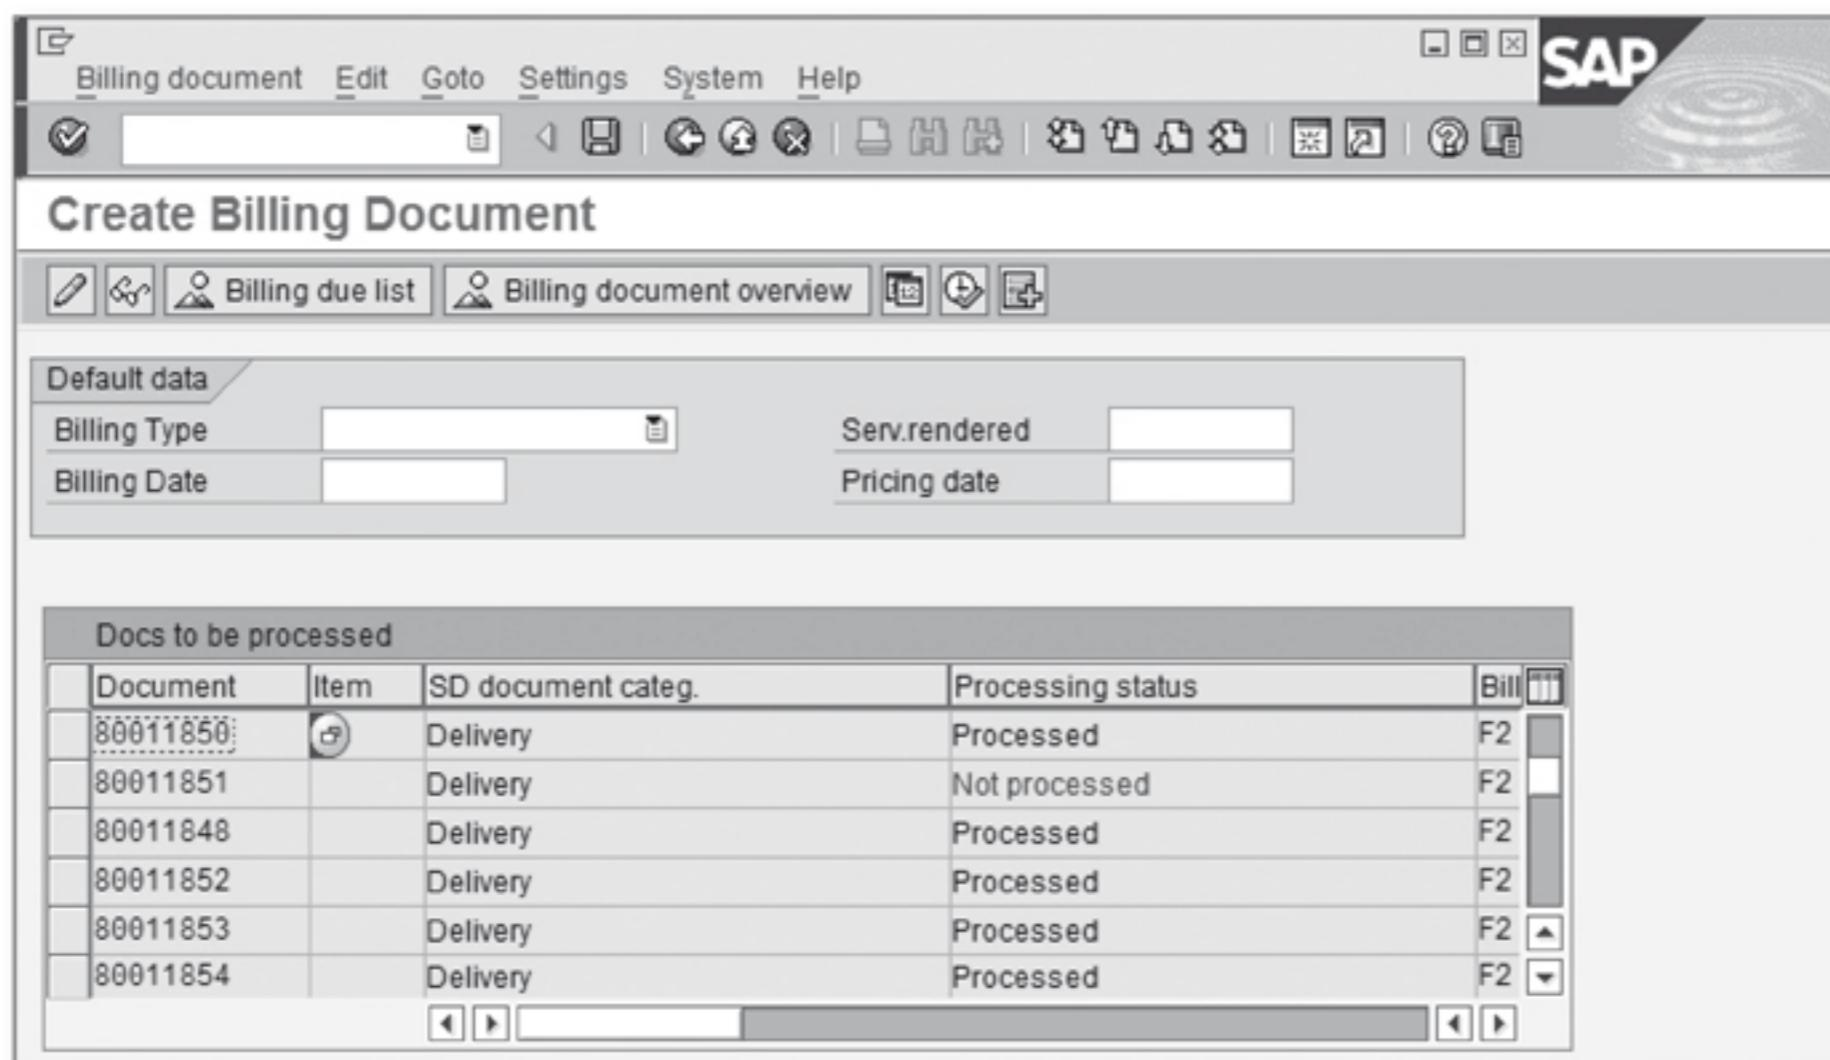

Figure 5.9 Create Collective Billing Documents Online – Exception Messages
- ▶ **Create collective billing document in the online mode:** This is the same type of process as before, but you can preview the results before saving the documents and review the error log by selecting a range of documents and clicking on the Collective Billing Doc/Online button (or pressing **Shift** + **F2**). The system will run the functions to create invoices, collect the messages and display them on the follow-up screen. Figure 5.9 shows a screen with exception messages in the Processing Status column.
1. To review system messages in detail, you have to select the document displayed after you attempt to create invoices (refer to Figure 5.9). Note the line with the Not Processed status; you can review the log for details of the system message stored for this failed transaction.